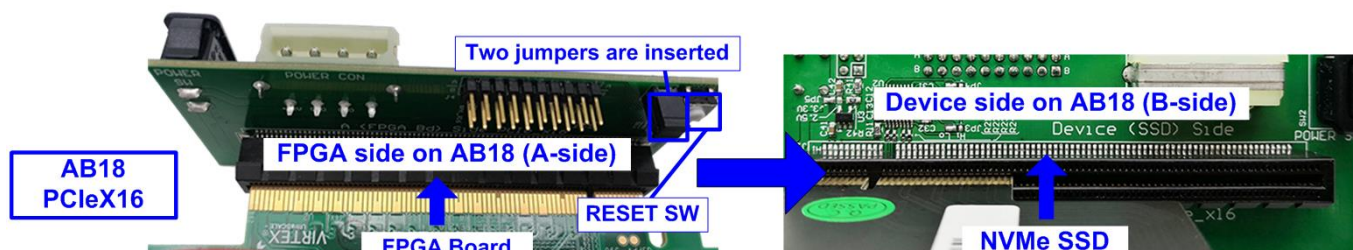

Figure 2-4 Connect Adapter board to NVMe SSD and FPGA board
- 4) Confirm that two mini jumpers are inserted at J5 connector on AB18. After that, connect FPGA Side (A-side) on AB18 to PCIe connector on FPGA board and connect NVMe PCIe SSD to device side (B-Side) on AB18, as shown in Figure 2-4.